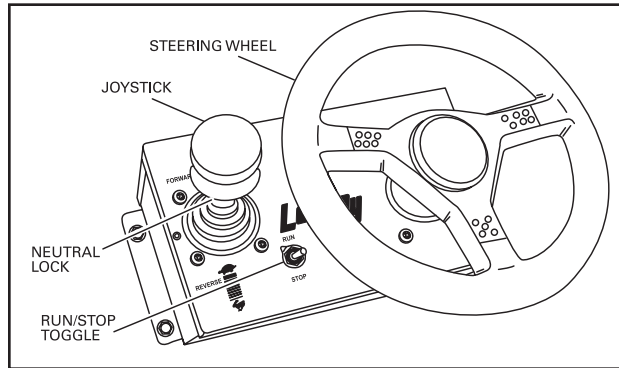

FIGURE 3-8A. SPEED AND STEERING CONTROL MODULE
NOTE: Joystick (Figure 3-8A) must be in neutral position to start engine.
To drive the machine, point the joystick (Figure 3-8A, item 1) straight ahead and lift up on the neutral lock (item 3) on joystick (item 1). Push the joystick forward slowly to reach the desired speed and turn the steering wheel (item 2) slowly to make turns as desired. The more you move the joystick the faster the travel speed.